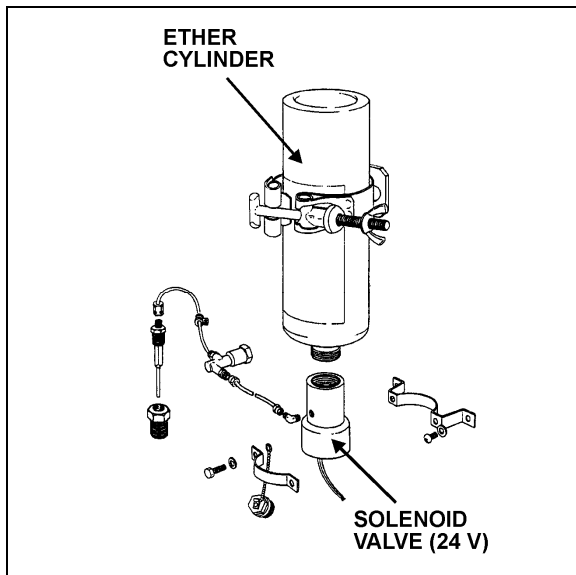

FIGURE 20: COLD STARTING AID
1. Check cylinder for hand tightness and fuel supply (Fig. 20). Empty cylinder weight is approximately 17 oz (480 g); full cylinder weight is approximately 35 oz (990 g). If cylinder is empty, replace it. Before replacing cylinder, install new valve gasket in solenoid valve.